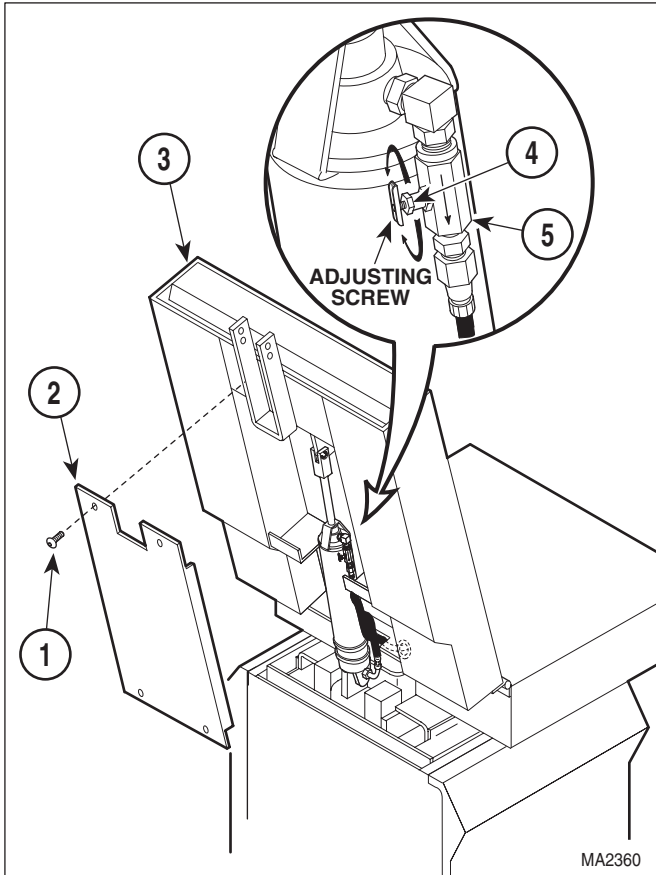

Figure 4-14. Back Cylinder Needle Valve Adjustment
- (1) Remove four screws (1, Figure 4-14) and back cover (2) from back weldment (3).